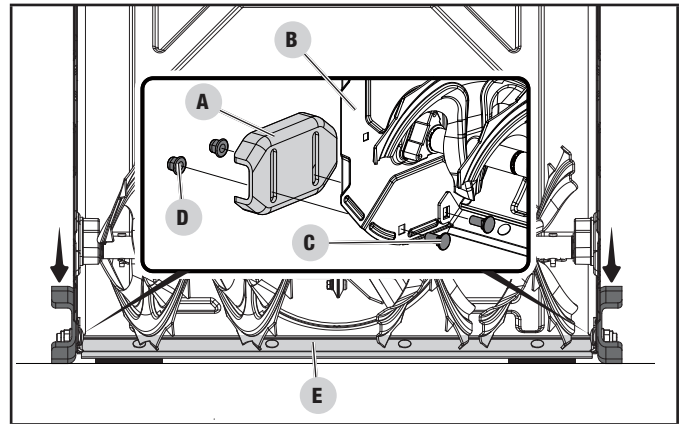

Figure 10
- Mount skid shoes (A) onto sides of auger housing (B) with two (2) M10 x 25 square neck carriage bolts (C). Use 15mm deep well socket to install two (2) M10 nylon lock nuts (D) but keep loose (Fig. 10). Repeat on the other side.
- Slide two shims under the shave plate (E) to set the desired height of shave plate over the pavement. Push each skid shoe (A) down against the pavement and use 15mm deep well socket to tighten the flange washer lock nut (D). Torque until snug. Do not overtighten (Fig. 10.)